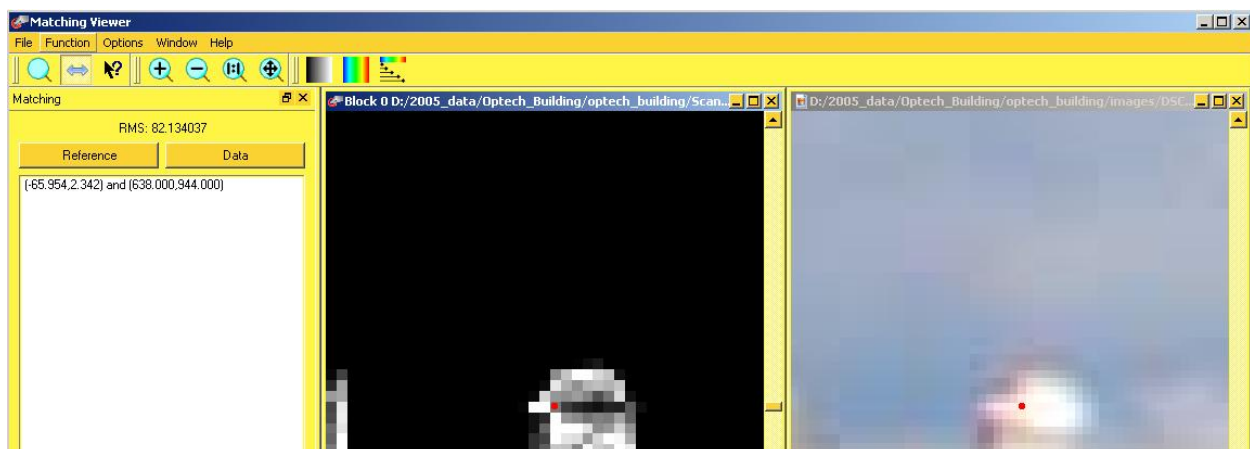

Figure 13: Point pair coordinates in matching window
3. To associate the pair, right-click anywhere in either image. The point coordinates appear in the Matching Window (Figure 13), and the paired points appear red.